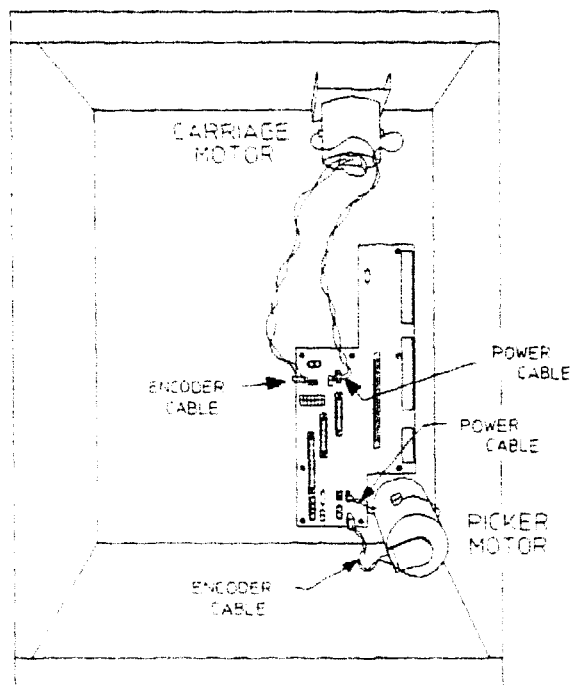
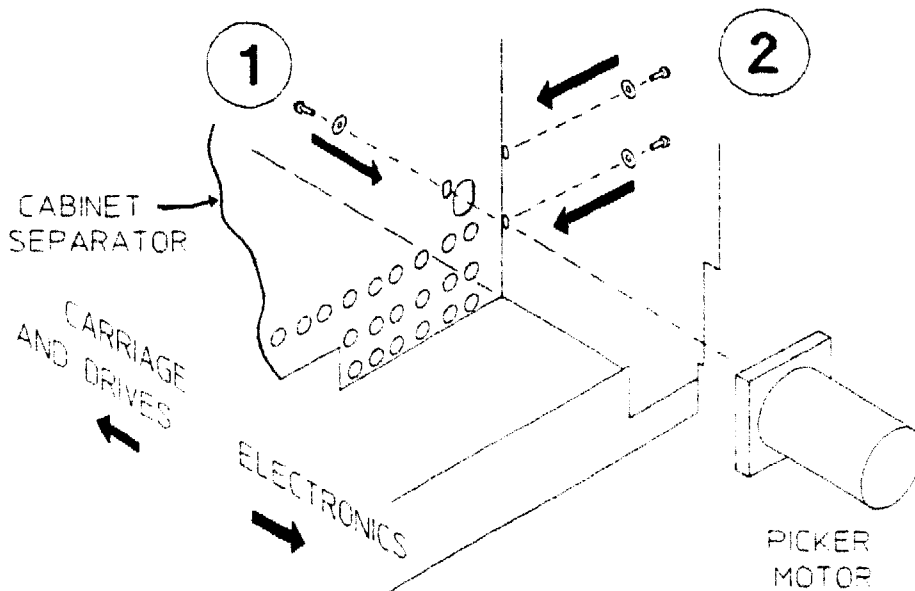
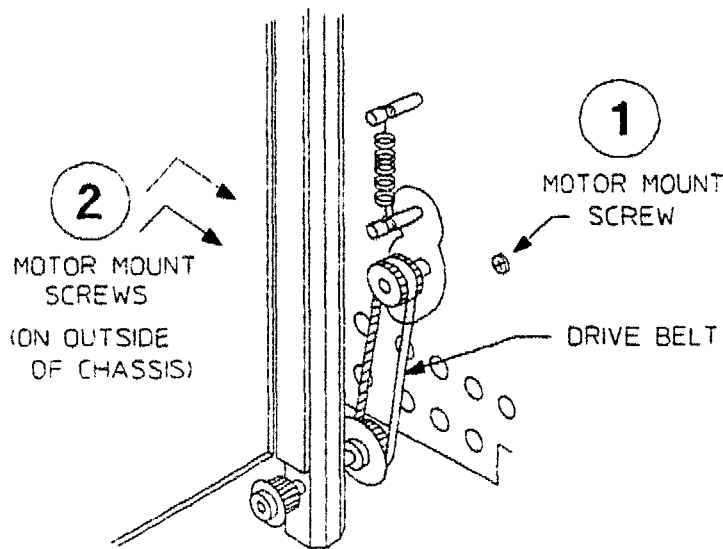

Figure 8-38. Carriage and Picker Motors
Figure 8-39. Picker Motor Mounting Screws
Figure 8-41. Picker Motor Mounting Screws and Drive Belt
Refer to Figure 8-38, Figure 8-39, and Figure 8-41
3. Remove the two cables connecting the Picker Motor to the Motherboard PCA (see Figure 8-38).
Refer to Figure 8-39
4. LOOSEN the motor mount screw on the inside of the electronics area (Figure 8-39 (1)) and the two mounting screws on the outside of the chassis (Figure 8-39 (2)). Do not remove the screws.
7. Loosen the tensioner spring (See Figure 8-41).
2. Replace the Picker Belt. Tighten the screw located behind the Carriage Leadscrew (Figure 8-39 (1)).
3. Tighten the two remaining screws (Figure 8-39 (2)).
5. Replace the two Picker Motor cables (Figure 8-38).
Refer to Figure 8-41.